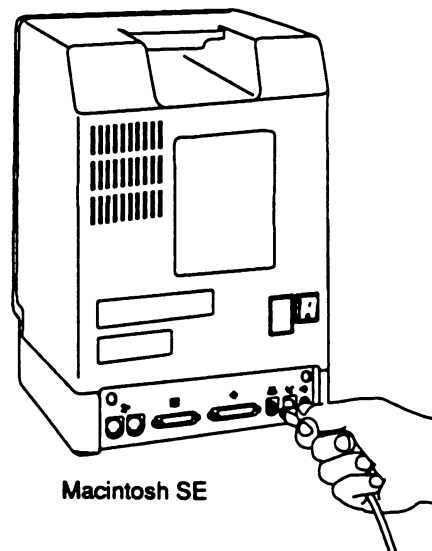

Figure 25. Connecting the printer cable to the Macintosh printer port
3. Plug the connector into the Macintosh printer port, as shown in Figure 25. If you the printer port is already being used for another connector, you can plug the printer cable into the modem port.